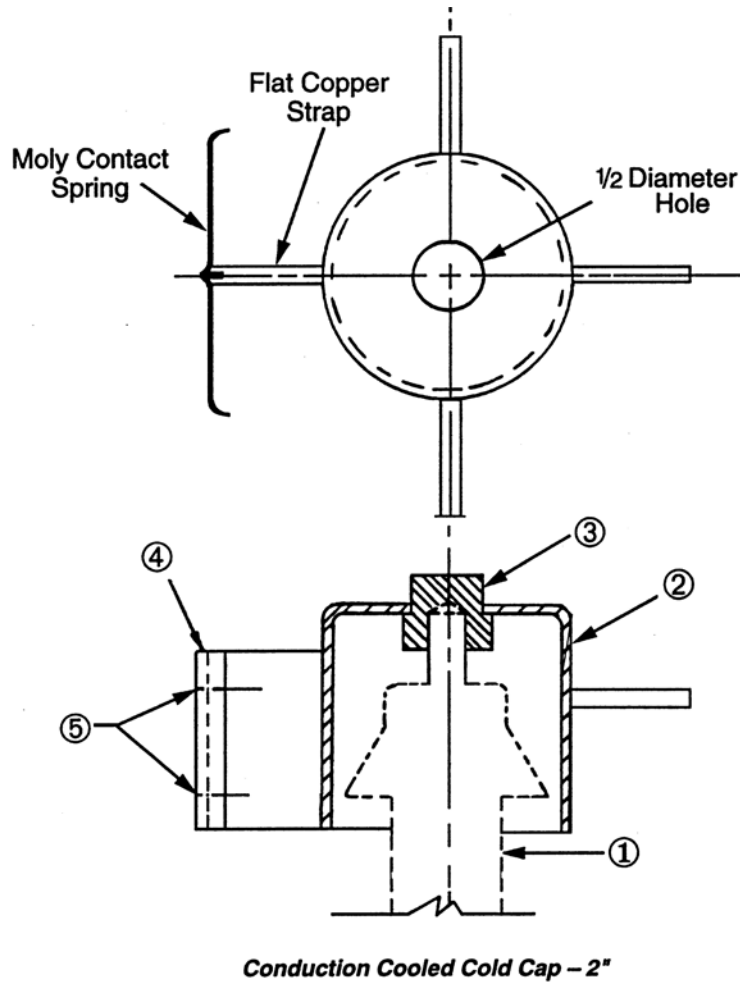
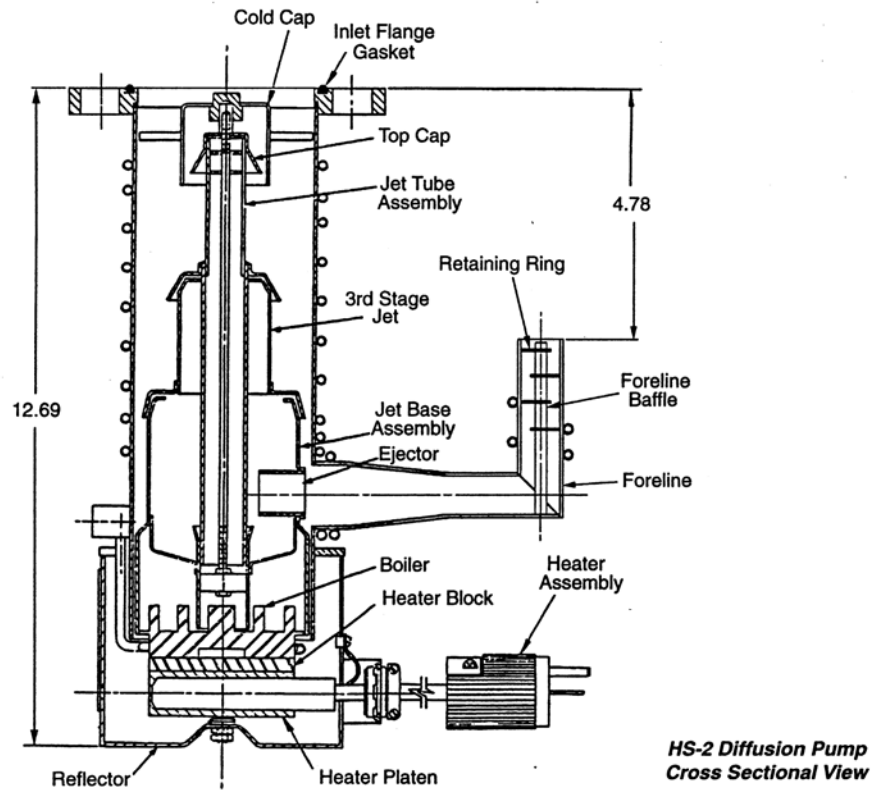
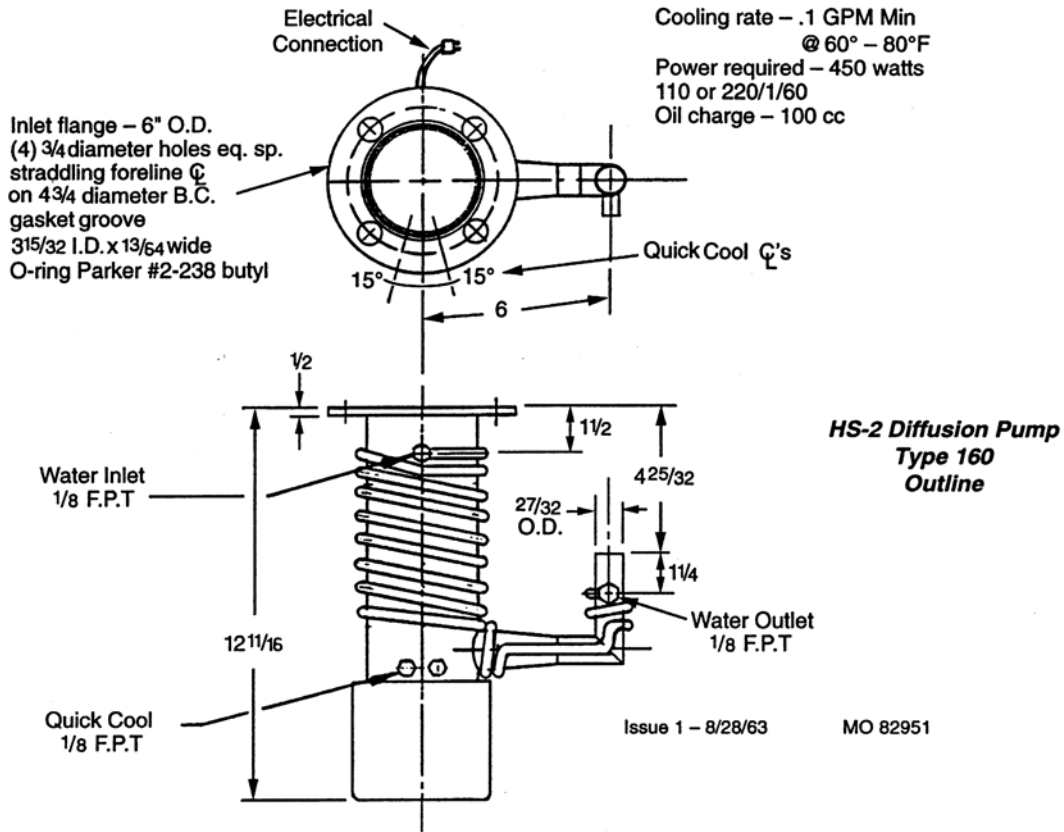

Figure 1-1 Cold Cap Installation
Figure 1-3 HS-2 Cross Section
Figure 1-4 HS-2 Flange and Pump
Figure 1-1 shows the cold cap correctly mounted on the top jet. Refer to Figure 1-3 on page 1-4 and Figure 1-4 on page 1-5 during installation.
3. Install the cold cap (Item 2) as shown in Figure 1-1, ensuring that it is resting firmly on the shoulder of the teflon button:
Figure 1-3 shows the HS-2 cross section.
Figure 1-4 shows the HS-2 flange and pump dimensions and connections.